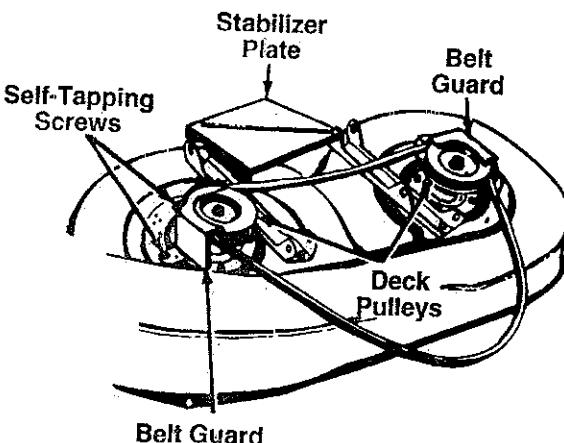

FIGURE 21
7. Disconnect the stabilizer plate from the stabilizer shaft assembly by removing the hairpin clips and flat washers and sliding out the rod. Refer to figure 21
10. Remove the belt guards at each deck pulley by removing the hex bolts, lockwashers and hex nuts. See figure 21